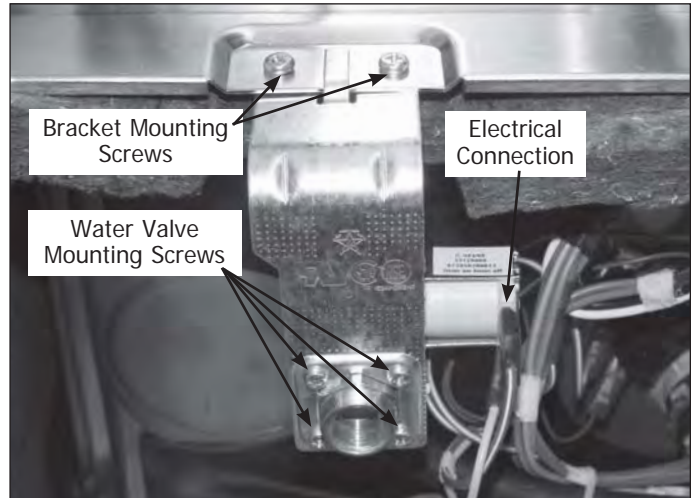

Figure 4-19.
4. Extract the two screws securing valve to front cross brace. (See Figure 4-19)
7. Extract the four screws securing the water valve to the mounting bracket. (See Figure 4-19)